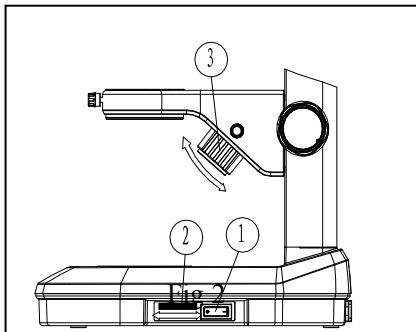

Fig 2
2. Turn on power switch ①(Fig 2), transmitted light will be bright.
3. Rotate down illumination wheel ② (Fig 2) to adjust brightness.
4. Rotate the top illumination ③ for adjusting the light position.